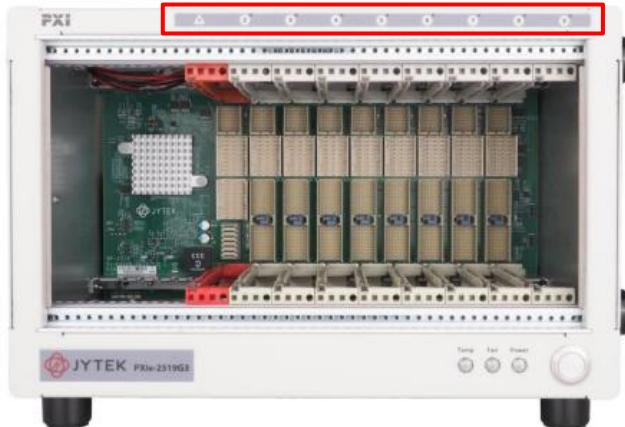

Figure 58 Slot number on PXIE Chassis
- Slot Number is the number marked on the top of the PXIE chassis. As shown in Figure 58. Here we set Slot 0 as the Master device, Slot 1 as the Slave device.